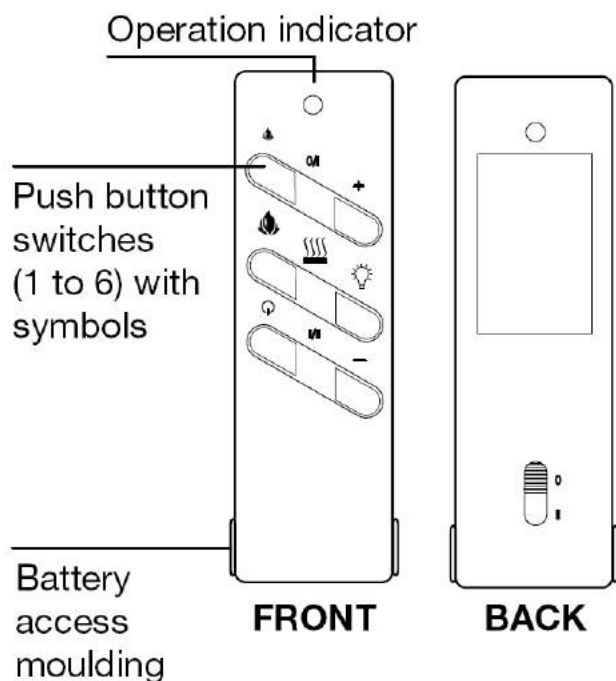
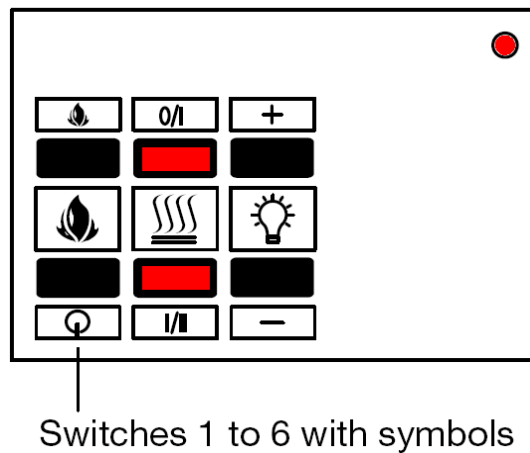

Fig.4
Fig.5
1. To turn the fire on (**Fig 4 and Fig 5**), simply press and release the button on the remote or manual keypad.
1. Make sure the fire is plugged in at the mains, turned to standby (I on main on/off switch) and the LED on the manual keypad is lit **Fig. 5**.
2. On the manual keypad **Fig. 5** on the fire press and hold the heater on & heater Hi/Low buttons together (centre buttons) for 5 seconds and the LED will flash.
3. Press the  button on the remote control **Fig. 4**. The fire will turn on & off twice.